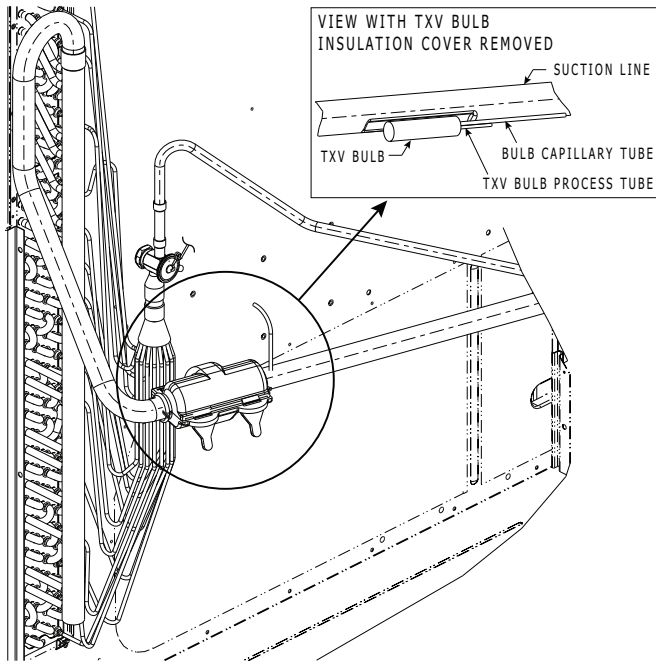

Fig. 28 — TXV Valve and Sensing Bulb Location
8. Attach TXV bulb in the same location where the original (in the sensing bulb indent) was when it was removed, using the supplied bulb clamps. See Fig. 28.